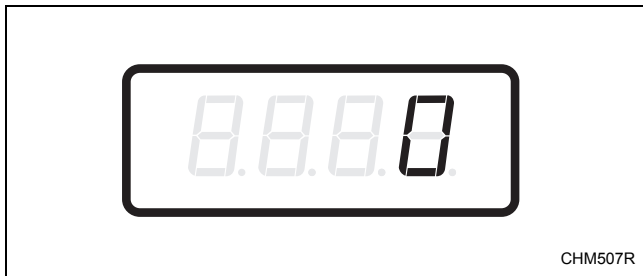

Figure 21
2. When “SA11” appears in the display, press the START (enter) keypad. There are five digits in the Special Vend A Normal Hot Vend Price. The fifth digit will appear in the display and will flash one (1) second on and one (1) second off. Refer to *Figure 21*.